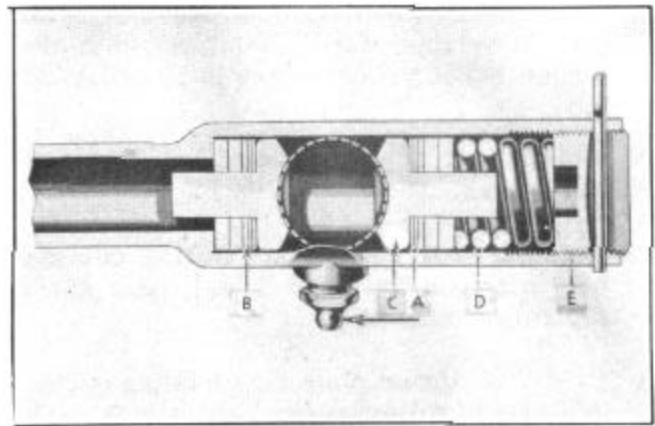

FIGURE 7
The drag link on all models is of the same construction at each end. However, the rear end has a shim adjustment for setting front wheels in the straight ahead position (A and B), Figure 7. Drag link assembly used on Pacemakers differs in length and angle from drag links used on other models.
8. If steering wheel spokes are not horizontal with gauge in this position, disconnect drag link at pitman arm and interchange shim packs (A and B), Figure 7, until horizontal position of spokes is attained, and attach drag link.